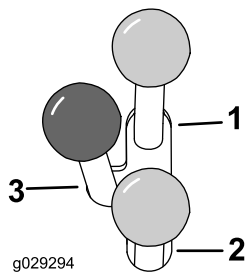

Figure 12
- To operate a hydraulic attachment in the forward direction, move the auxiliary-hydraulics lever forward (Figure 12).
- To operate a hydraulic attachment in the reverse direction, move the auxiliary-hydraulics lever rearward (Figure 12).
**Note:** If you release the lever while in the FORWARD or REVERSE position, the lever automatically returns to the NEUTRAL position (Figure 12).